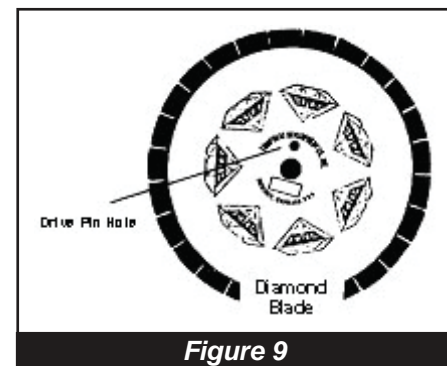

Figure 9
- Check diamond blades for cracks, loose segments and oversize, worn, or out-of-round arbor holes **(See Figure 5 on page 5)**. Do not use **any** questionable blade since serious injury and/or damage to property can result. Do not use warped, twisted, or out-of-balance blades. Unbalanced blades will wear excessively, vibrate and damage both arbor shaft and bearings. Do not use a blade without a drive pinhole **(Figure 9)**.
Inspect the blades before installing. Check diamond blades for cracks, loose segments and oversize, worn, or out-of-round arbor holes (**Figure 5 on page 5**). Do not use any questionable blade since serious personal injury and/or damage to property can result. Do not use warped, twisted, or out-of-balance blades. Unbalanced blades will wear excessively, vibrate and damage both arbor shaft and bearings. Do not use a blade without a drive pinhole (**Figure 9**).